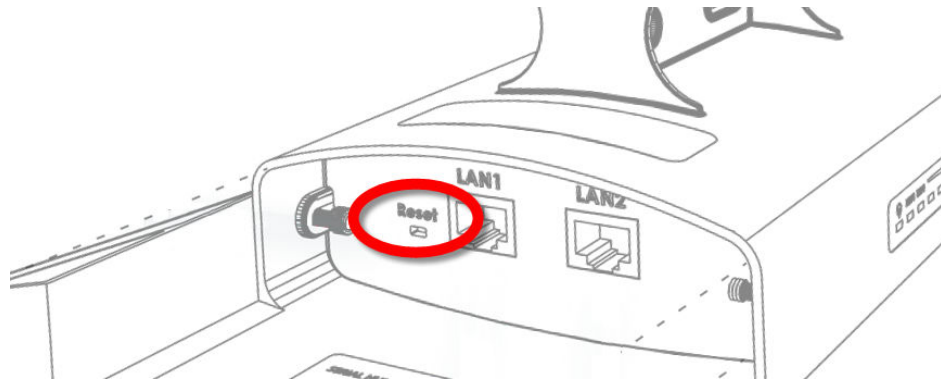

Figure 9. Cisco FM1200 Volo (Hardware RESET button port)
2. Insert a long tool with a thin shaft, such as a paper clip or a thin screwdriver, into the **RESET** button port until the tool touches the bottom (Figure 9 \(page 35\)).